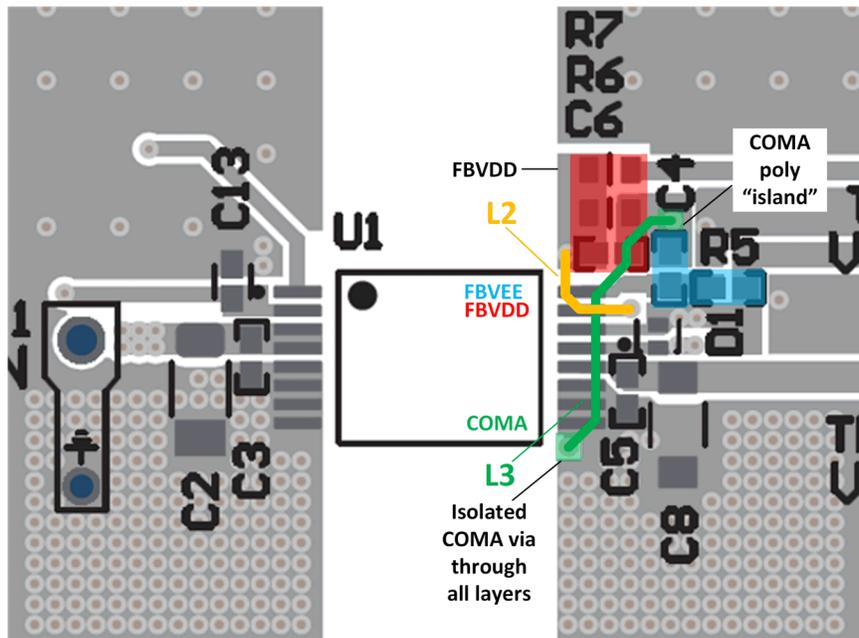

Figure 8-7. FBVDD (R6-7, C6), FBVEE (R5, C4), COMA Routing
- f. A layout example is shown in Figure 8-7, where L2 (yellow) is routed on layer 2 and L3 (green) is routed on layer 3.